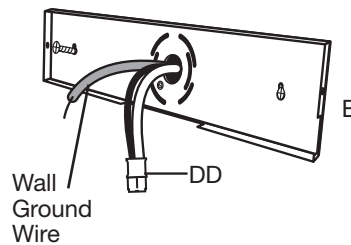

Fig 5
8. Bring Capstone Quick Connector (DD) and Wall Ground Wire through center hole in Mounting Plate (B) (Fig 5).
9. Anchor Mounting Plate (B) to wall by securing Self-Tapping Wall Mounting Screws (EE) into Plastic Wall Anchors (FF).